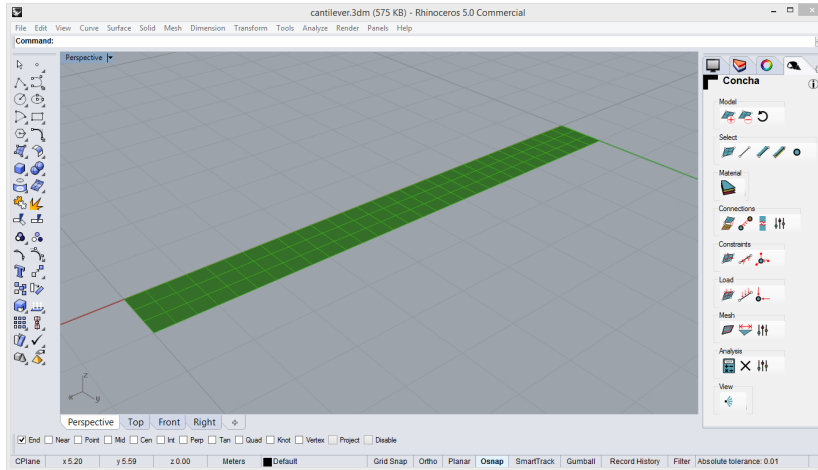

Figure 4: Finite Element mesh
Now, the problem is fully described and the analysis can be started. As a preliminary, the Finite Element (FE) mesh is needed. Therefore, the command ConchaCreateMeshes gives directly a mesh for the model geometry. If a different mesh is requested, the command ConchaMeshSettingsSurface allows to fine-tune the meshing algorithm per surface. Here, a maximal mesh size of 0.4 is used and the mesh as in Figure 4 is obtained.